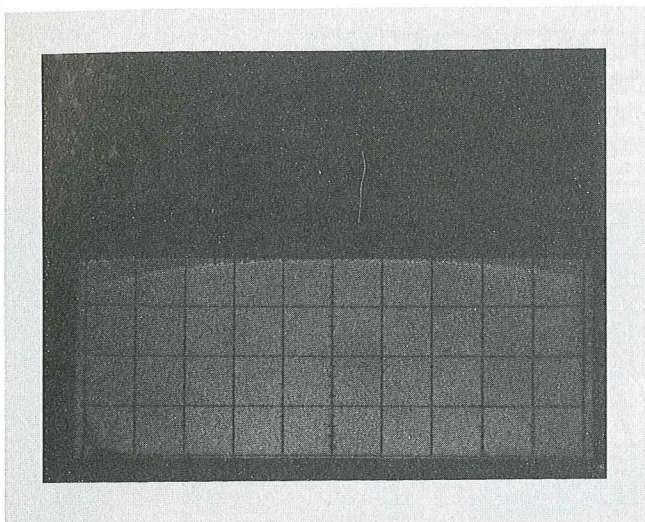

Fig. 3. Typical half-screen stored display.
7. Adjust Non-Store Level (R395). Write the entire screen positive. Release UPPER STORE switch and note that the upper screen background glow disappears quickly (less than 1 sec). Adjust Non-Store (R395) to insure proper upper screen background fade rate. Half-screen storage should resemble Fig. 3.